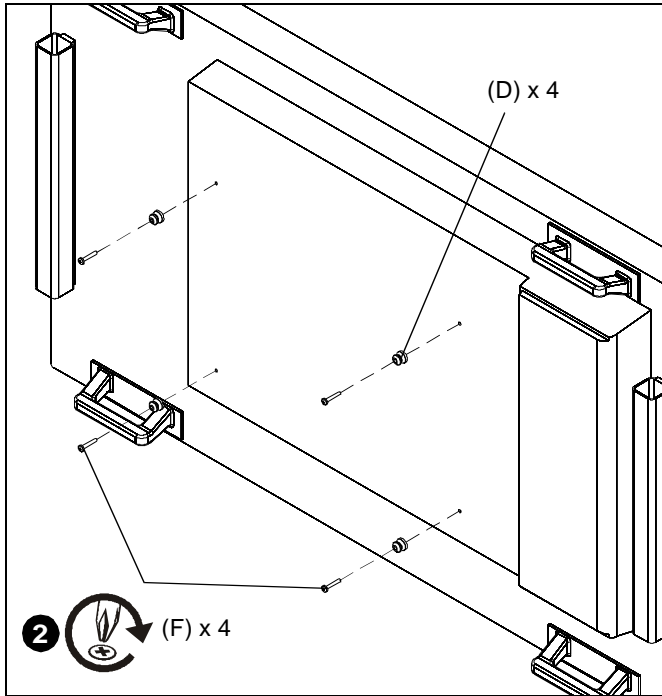

**Figure 8**
10. Place mount over anchors and align mounting holes in display mount with holes in anchors. (See Figure 8)
11. Place 1/4" flat washer (M) onto 1/4-20 x 1-3/4" Phillips pan head screw (L).
12. Insert Phillips pan head screw (L) with flat washer (M) through mounting hole in wall mount (A) and into anchor (N) and tighten until flush against mount. DO NOT overtighten! (See Figure 8)
7. Move two locking flags (C) to CLOSED position and lock, if desired, with a cable, bolt or padlock. (See Figure 8)